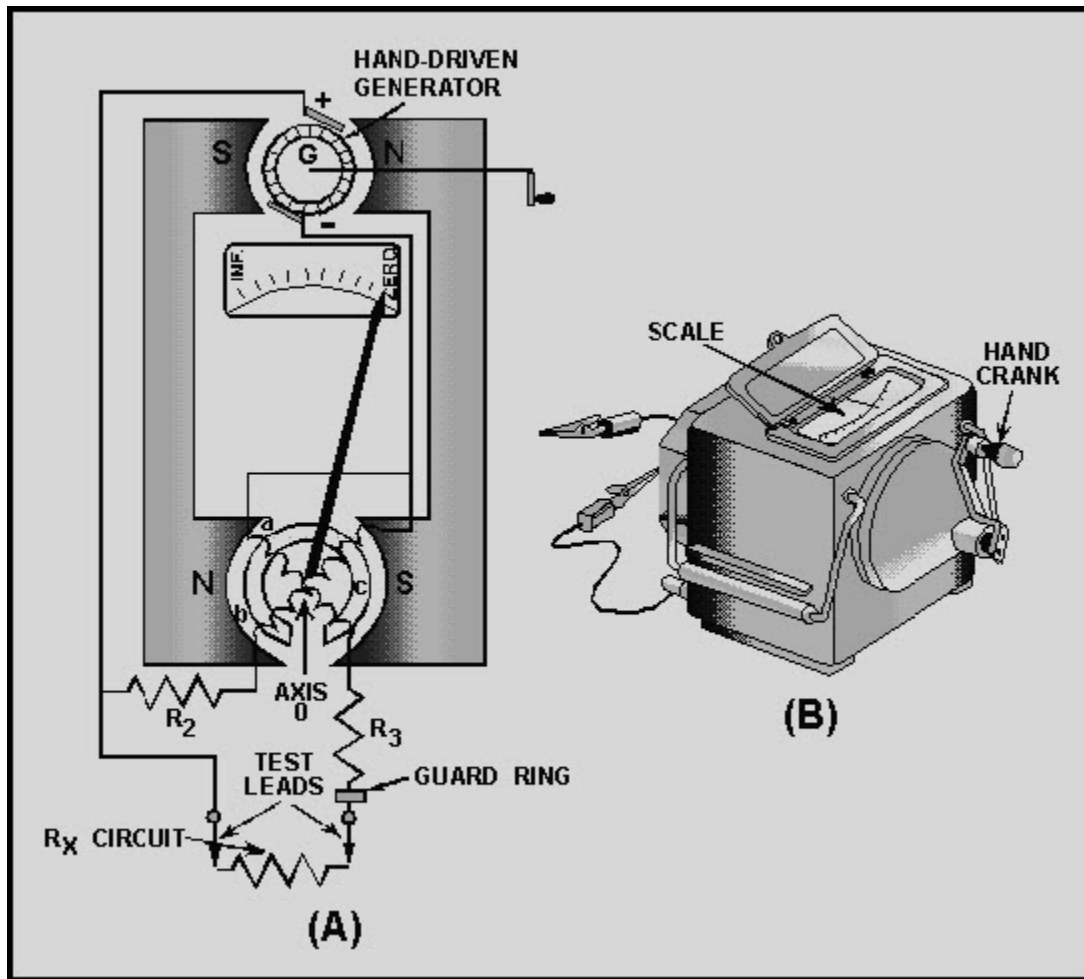

Figure 1-36 A megger internal circuit
An instrument called a **MEGOHMMETER (MEGGER)** is used for these tests. The megger (fig. 1-36) is a portable instrument consisting of two primary elements: (1) a hand-driven dc generator, G, which supplies the high voltage for making the measurement, and (2) the instrument portion, which indicates the value of the resistance being measured. The instrument portion is of the opposed-coil type, as shown in figure 1-36(A). Coils a and b are mounted on the movable member c with a fixed relationship to each other, and are free to turn as a unit in a magnetic field. Coil b tends to move the pointer counterclockwise, and coil a tends to move the pointer clockwise.
The external view of one type of megger is shown in figure 1-36(B).